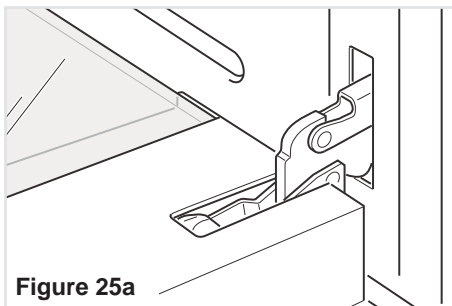

Figure 25a
- Open the door to the full extent (fig. 25a).